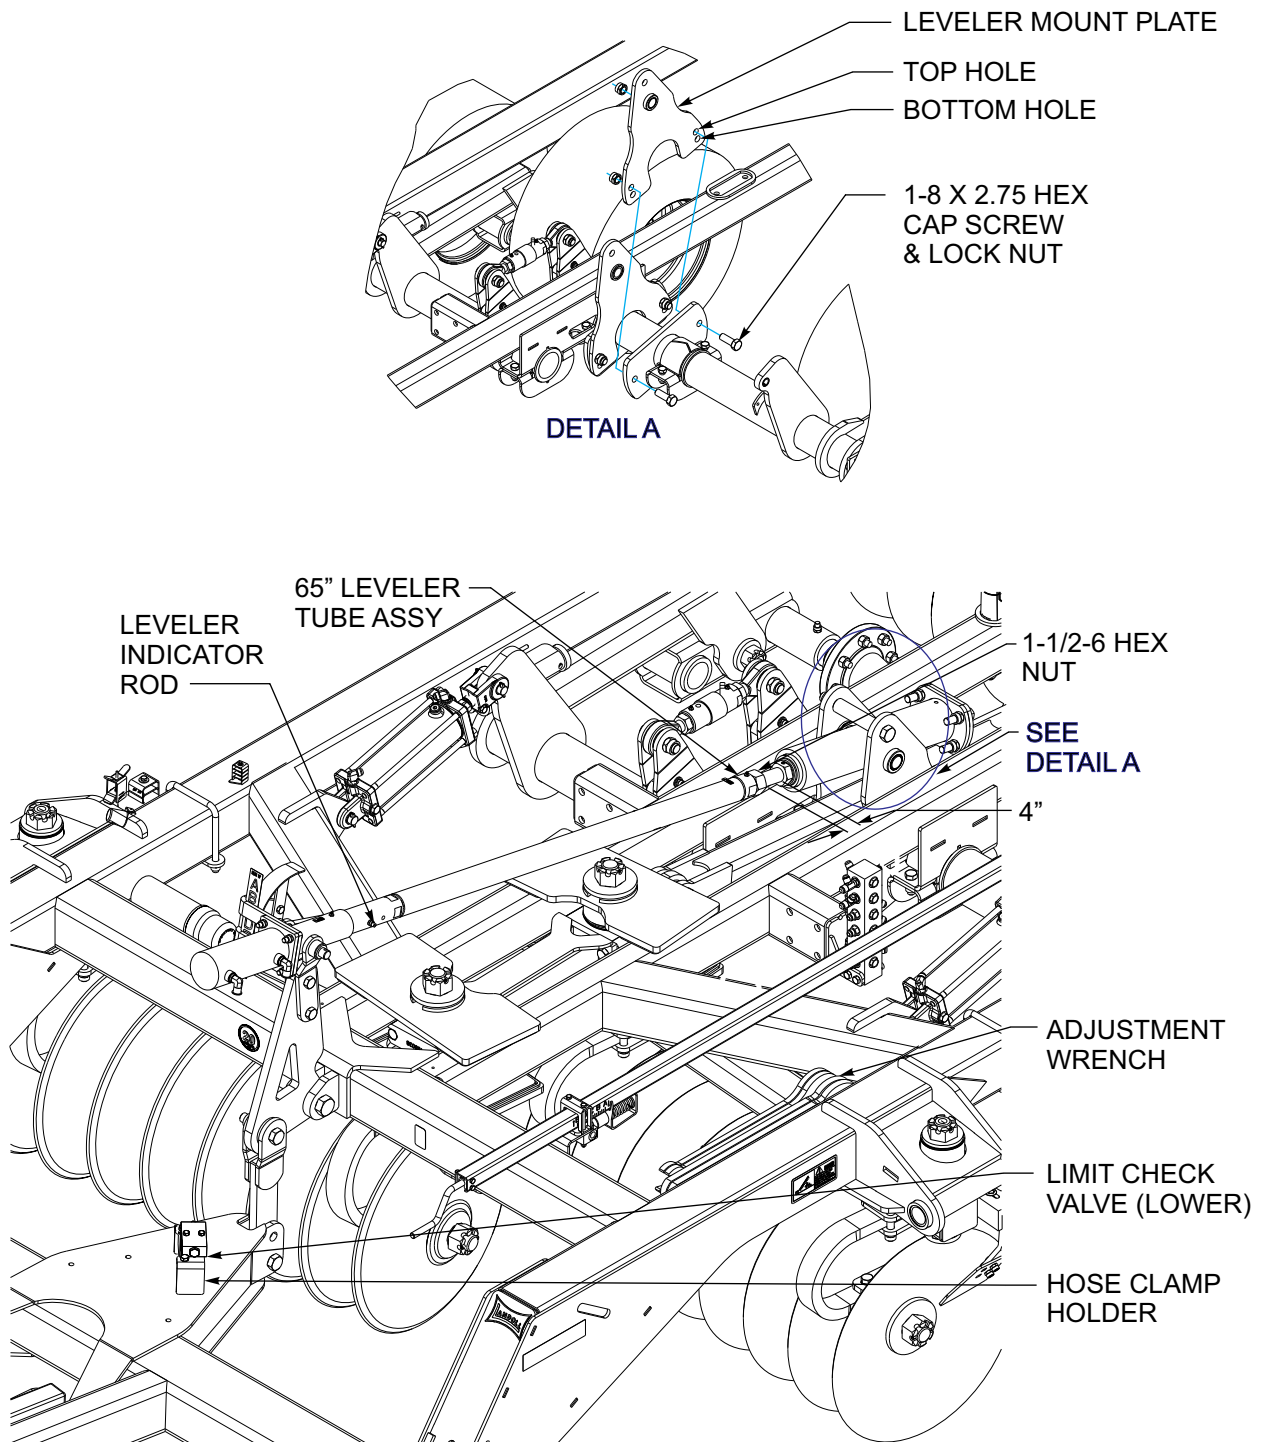

Figure 4-11: Hydraulic Leveler Adjustment
4. The 7530 leveler plates can be adjusted upward to allow the rear of the machine to be lower if needed, during transport. It is preset at Landoll in the upper holes refer to "Detail A" in **(See Figure 4-11.)** for details of adjustment.
2. Remove the level indicator rod from the leveler tube **(See Figure 4-11.)** and **(See Figure 3-4. in "Assembly Instructions "section.)**